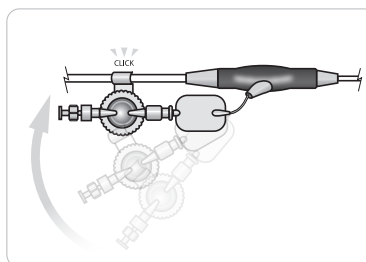

Figure 1.5
- Snap the purge clip (located on the pressure reservoir of the clear sidearm) to the connector cable as shown in Figure 1.5. **Note:** Snapping the plastic clip on the pressure reservoir to the connector cable is important to prevent the tube from kinking.